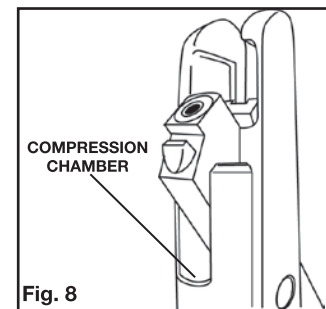

Fig. 8
- To ensure that your air rifle maintains uniform power, it is important that you apply a drop of Crosman RMC OIL every few hundred shots into the compression chamber. (Fig. 8) The external metal parts should be cleaned with a cloth that has RMC OIL on it.